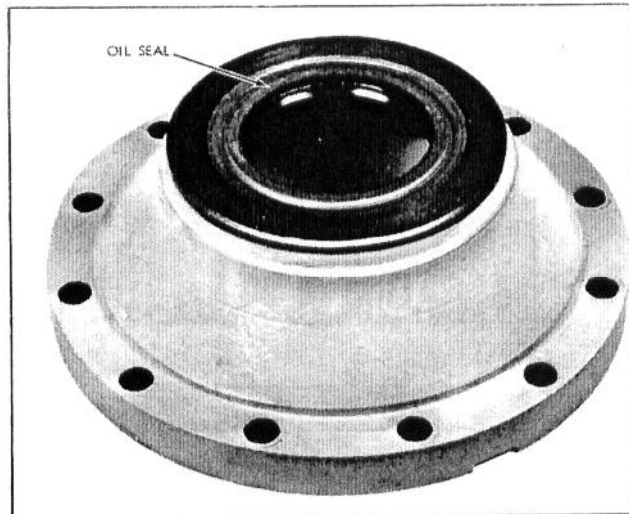

Fig. 47 - Planetary Carrier Oil Seal Location
10. Remove the planetary carrier oil seal from the drive cover with a suitable puller. Refer to Fig. 47.
2. Install a *new* planetary carrier oil seal. Refer to Fig. 47. Press the seal in until it is flush with the outer edge of the drive cover. Seals must face planetary.